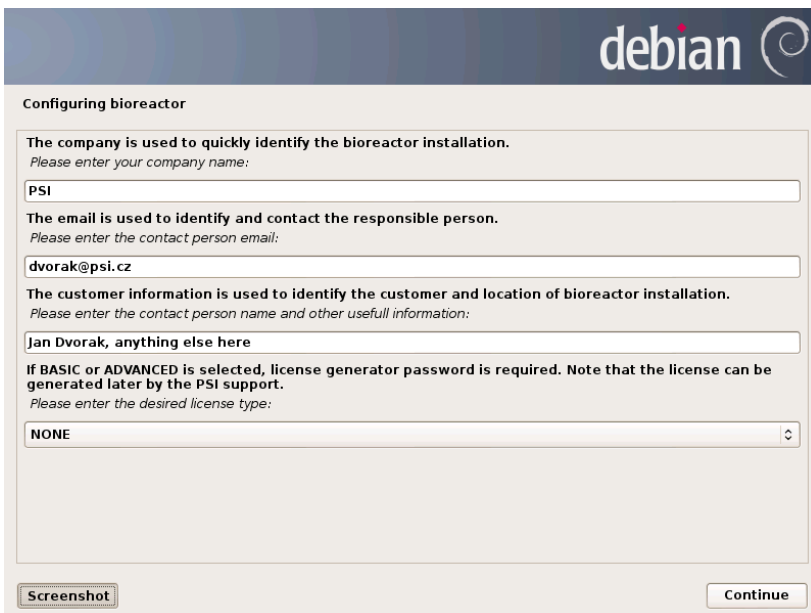

Fig. 61 Customer and license information
- On the next screen enter your company name, email and contact person (Fig. 61). Select license type NONE. The proper license will be delivered by PSI support, see section Install the License File on page 46.